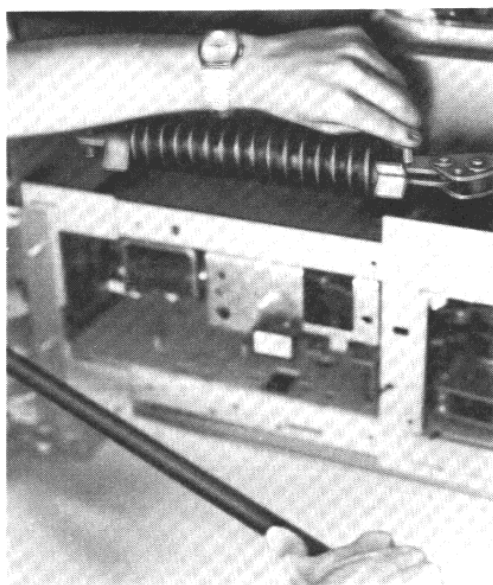

Figure 9
2. As shown in (Figure 9), charge the mechanism manually so that the right-hand holes are just barely accessible.